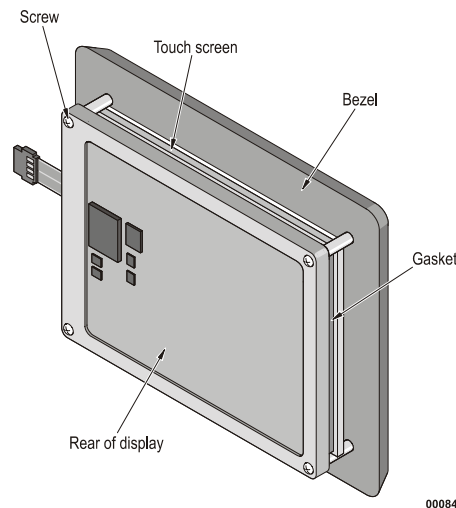

Figure 12: Example of rear mounting a touch screen directly
1. Align and adhere the touch screen to the display, using a gasket (Figure 12). For information about gasket options, see Chapter 7.